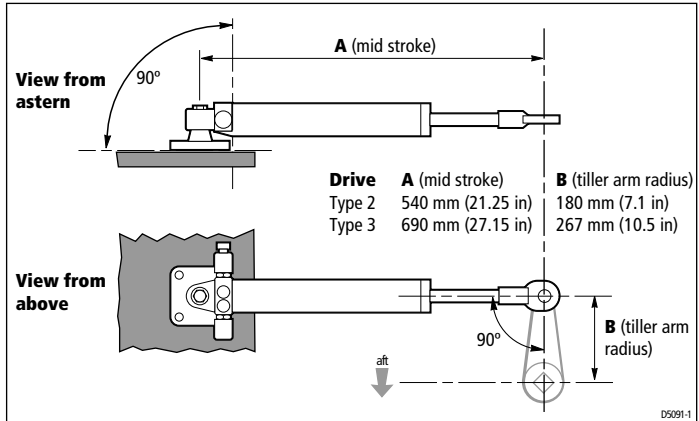

Figure 4: Hydraulic ram alignment
- The ram must be at right angles to the mounting surface (see *Figure 4*).
- The ram must be at right angles to the tiller arm when the rudder is amidships (see *Figure 4*).
Use the supplied tiller pin assembly to attach the rod end to the tiller arm, at the tiller arm radius shown in *Figure 4*.
**Note:** *If necessary, you will need to drill a hole in the tiller arm at the radius shown in Figure 4.*